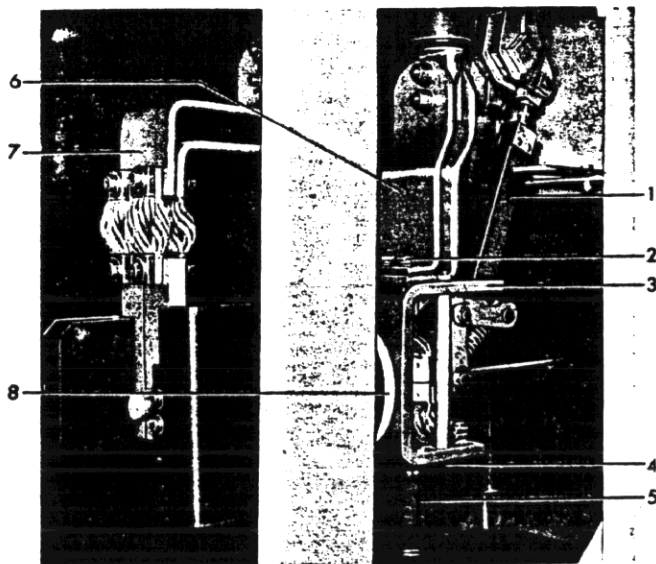
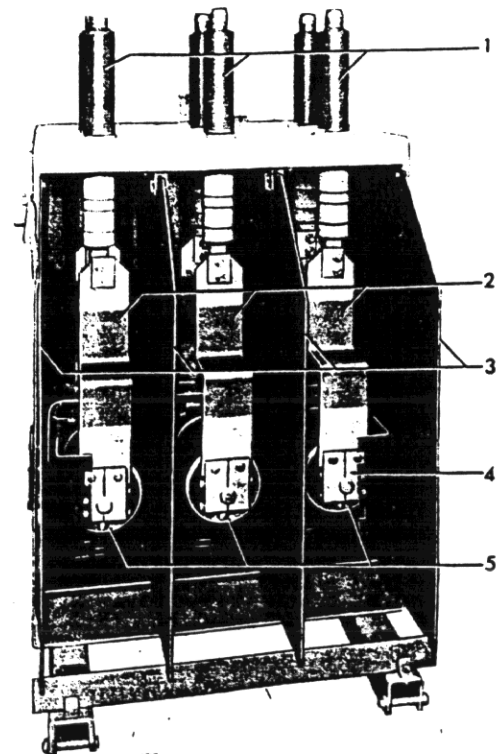

Figure 3. (8041778) Left Side View
Figure 4. (8041554) Rear View
The vacuum breaker has two principal components, the interrupter element and the operating mechanism. The interrupter elements are three similar units, the main element being a vacuum power interrupter (8) Figure 3 whose main contacts are hermetically sealed in a high vacuum chamber. The primary connections to the associated metal-clad switchgear are made through the breaker bushings (1) Figure 4. The operating mechanism moves a horizontal square shaft (1) Figure 12 that closes the contacts of the interrupter through wipe springs (10) Figure 5.